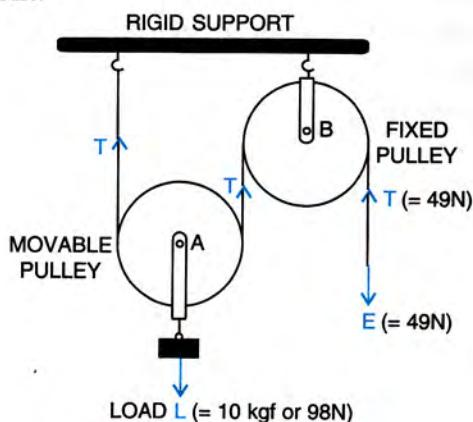

Fig. 3.23 Single movable pulley with a fixed pulley
**Way to change the direction of effort using a movable pulley :** With a single movable pulley, the effort is to be applied in the upward direction. However, it is inconvenient to apply the effort in an upward direction, therefore a movable pulley A is used along with a fixed pulley B to change the direction of effort as shown in Fig. 3.23. The load is attached to the axle of movable pulley A and the effort is applied in the downward direction at the free end of the string passing over the fixed pulley B. One can also use his own weight as effort which will be quite convenient.
**Note :** The mechanical advantage and the velocity ratio of the arrangement shown in Fig. 3.23 remain same as that of a single movable pulley.